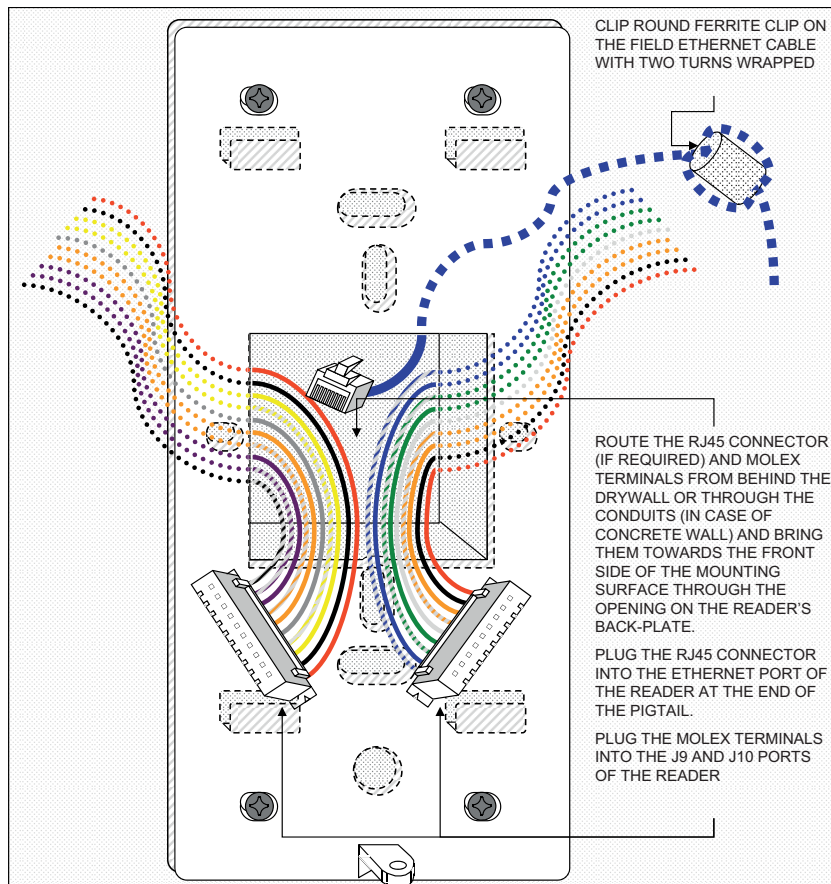
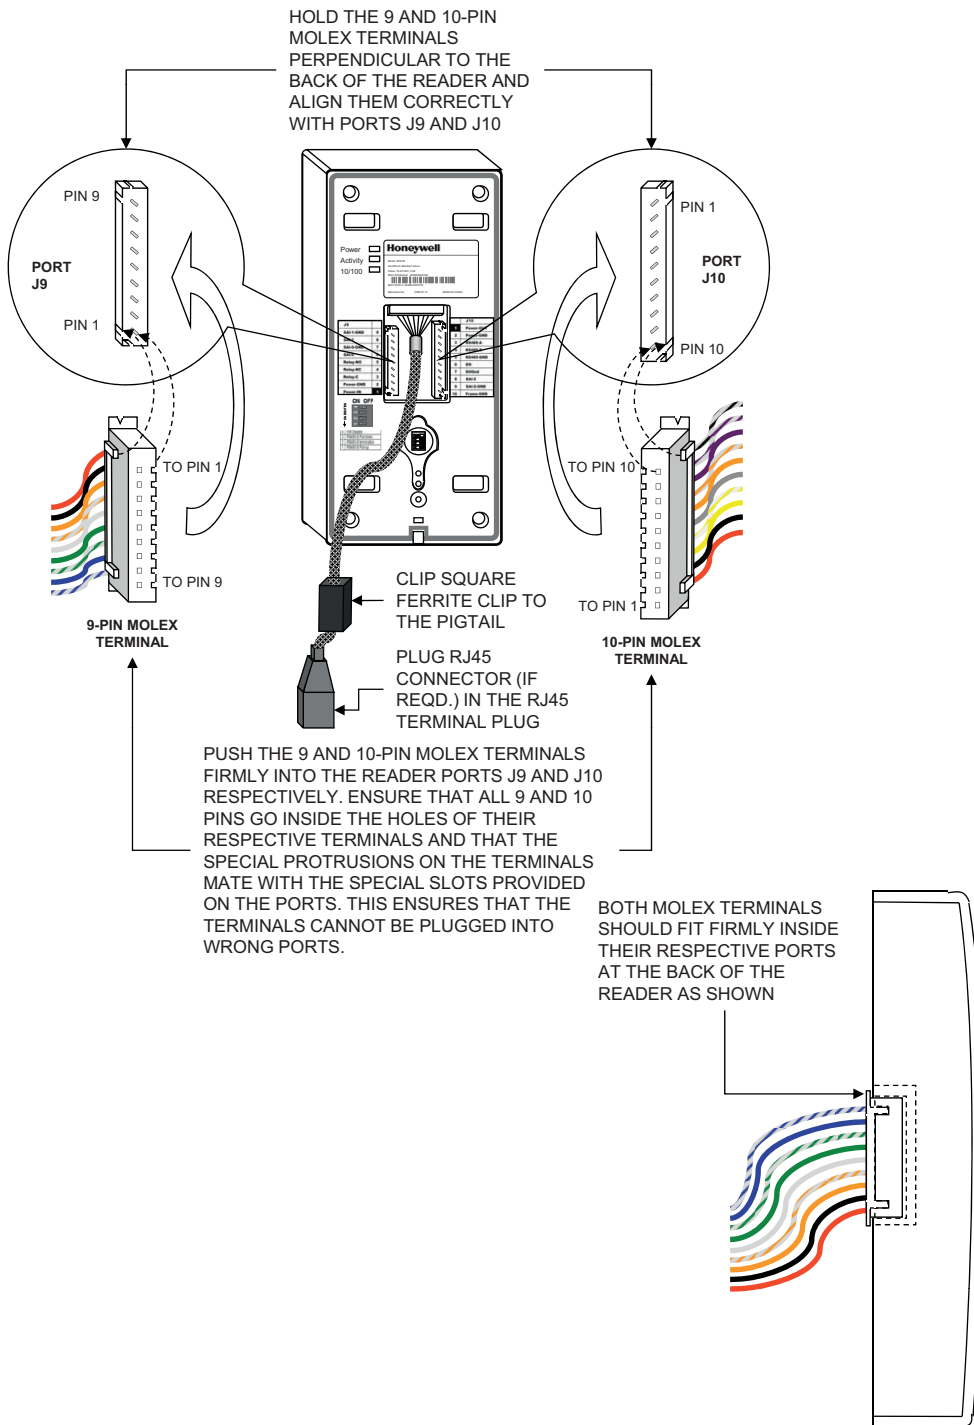

Fig. 6. Routing the wires before plugging the connectors into the reader
Fig. 7. Plugging the connectors into the IdentIPoint reader
4. Route the field wires including the Ethernet cable (if required) from behind the drywall through the cable opening and bring them to the front of the mounting surface. See Fig.6. Clip the square* ferrite clip on the reader's Ethernet pigtail. See Fig.7. Connect the field wiring to the correct Molex pigtails. See Table.2 for wire sizes and distances. For reader connection details see Fig.11 and Table.5 and Table.6. Plug the Molex terminal(s) in ports J9 and J10 at the back of the reader. See Fig.7. Clip (with two turns wrapped) the round** ferrite clip on the field Ethernet cable. See Fig.6. Plug the RJ45 connector of the field Ethernet cable into the Ethernet port of the reader at the end of the pigtail. See Fig.7. Drop the excess lengths of Molex and Ethernet wires behind the drywall. Set the S1 DIP switch if the reader is to be connected to an IOM via RS485. See
3. Route the field wiring including the Ethernet cable (if required) from the conduits into the gang box. Clip the square* ferrite clip on the reader's Ethernet pigtail. See Fig.7. Connect the field wiring to the correct Molex pigtails. See Table.2 for wire sizes and distances. For reader connection details see Fig.11 and Table.5 and Table.6. Route the Molex terminal(s) through the cable opening on the back-plate towards the front of the mounting surface (see Fig.6) and plug them in ports J9 and J10 at the back of the reader. See Fig.7. Clip (with two turns wrapped) the round** ferrite clip on the field Ethernet cable. See Fig.6. Plug the RJ45 connector of the field Ethernet cable into the Ethernet port of the reader provided at the end of the pigtail. See Fig.7. Allow room for the Molex and Ethernet pigtails inside the gang box. Set the S1 DIP switch if the reader is to be connected to an IOM via RS485. See Fig.11, Table.7 and Section *RS485 Communication and Termination Setting of Connector and Switch Descriptions* topic for more details.